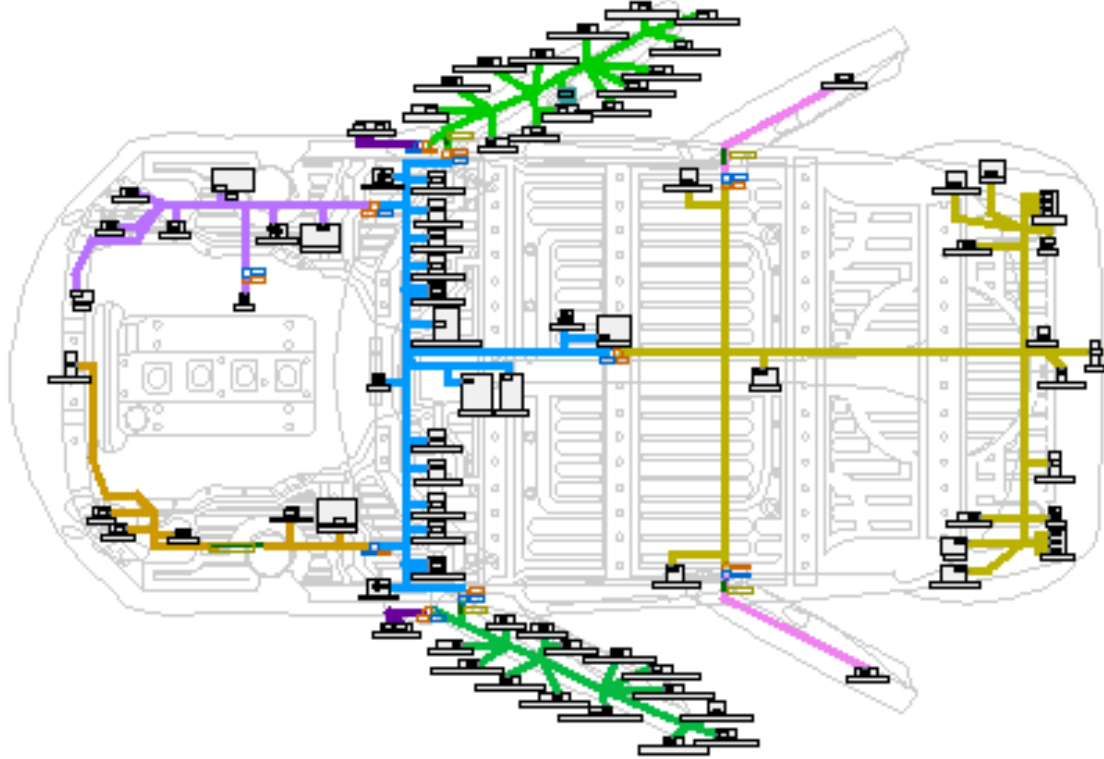

Figure 2: The location and temperature extremes for harness interconnect points must be modeled.
3. A model of the architecture of the vehicle describing the location of the components and the relative temperatures of each area of the vehicle and the harness interconnect points, as shown in figure 2.